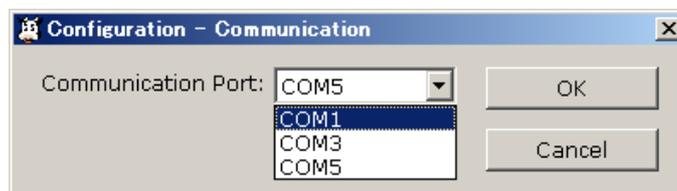

Fig. 11.1-2 : Communication port selection
- (3) Select intended communication port (Fig. 11.1-2).